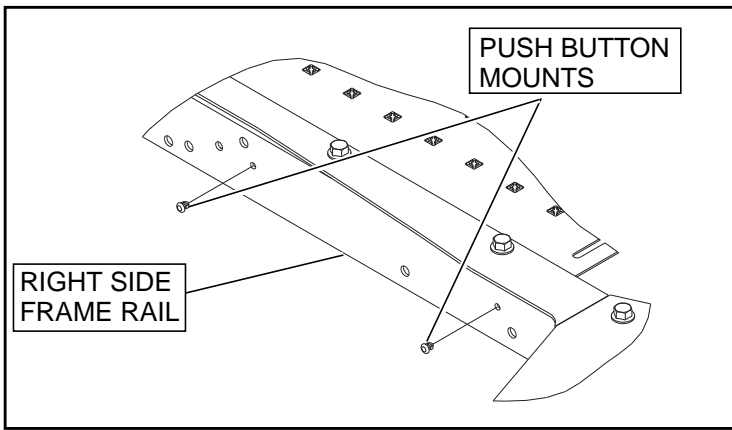

FIG. 7
11. Install the push button mounts in the right side frame rail of the mower (Fig. 7). I